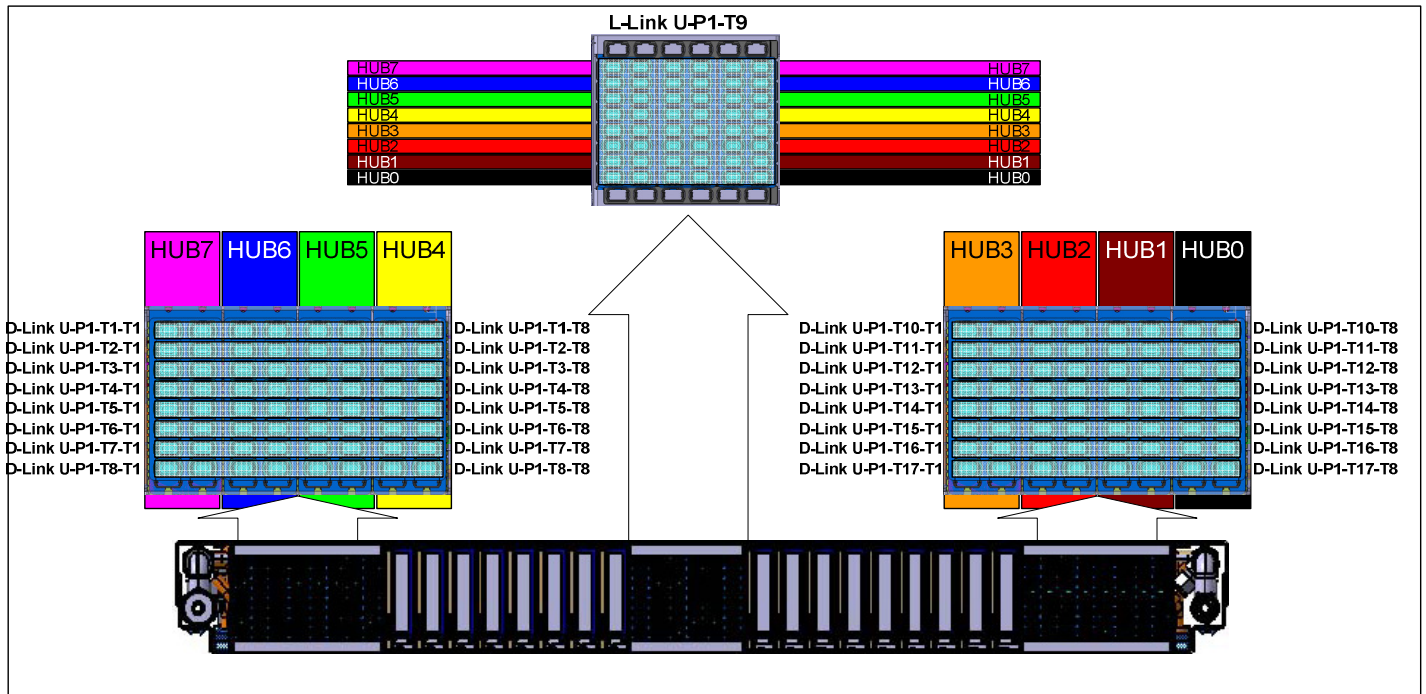

Figure 22 Location Codes for D-Link and L-Link assemblies
(See Figure 22 for the location codes for the D-Links and the L-Link backplane assembly)
STEP 31 Disconnect the L-Links from the CEC Drawer being serviced if present. (some CEC Drawer will not have L-Links). Refer to Figure 22 above. (It is important to note that we must take every precaution to ensure that the L link do not get dirt, dust or other debris on them)